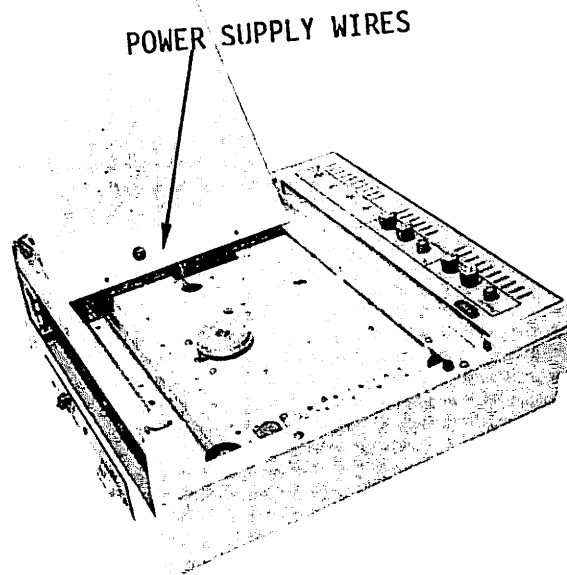

Figure B-1. Hood Removed and Scale Swing Away
2. Remove the rear hood by removing the two screws on the rear of the cover. The rear hood is shown in Figure B-1. It is the cover with the Y scale printed on it.
3. Lift pen holder. Raise pen scale. Slidewire and wiper are now accessible. See Figures B-1, B-2 and B-5.